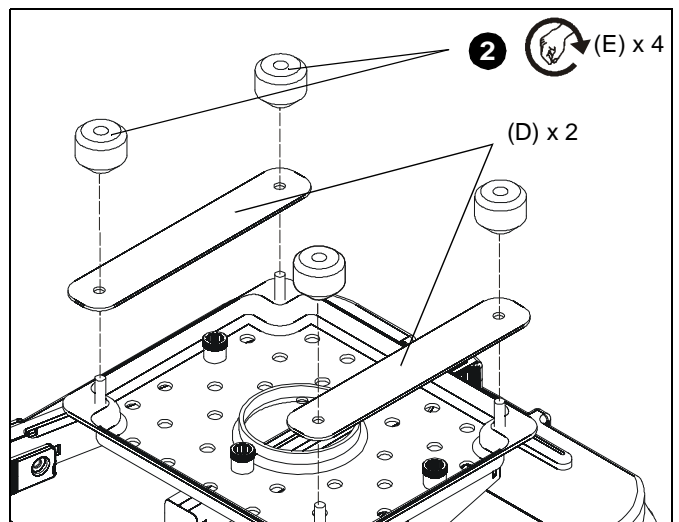

**Figure 9**
1. Install #8-32 x 3/8" button head security screws into security holes on SLBU/SLMU legs. (See Figure 9)